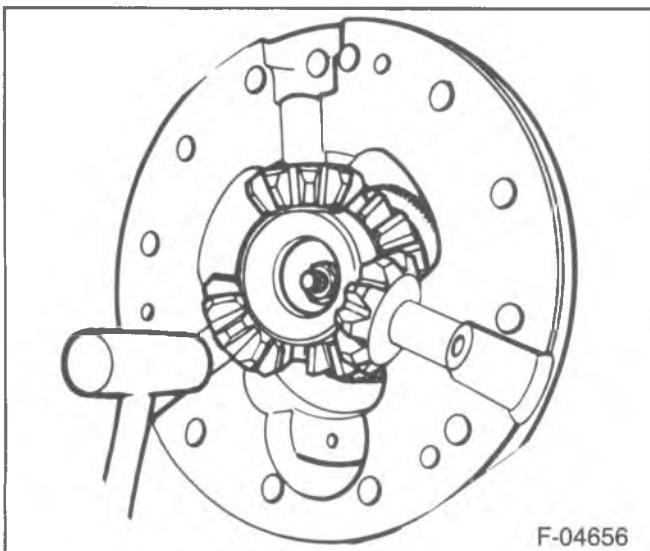

Figure 203—Installing the Pinion Yoke
4. Install the yoke firmly to the differential case half (figure 203).